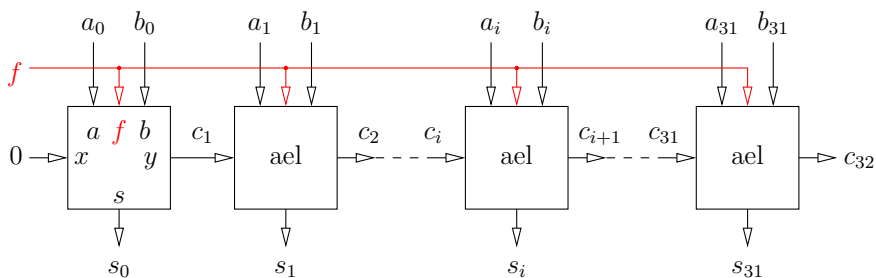

Figure 5: 32-bits ALU
At the heart of the ALU there will 32 identical **ael** elements connected together as shown on Figure 5. The i^{th} **ael** receives one bit of the first ALU operand (a_i), one bit of the second ALU operand (b_i), one carry input (c_i) from the previous **ael** (or 0 for the first **ael**), plus the control input f that selects the ALU operation. It outputs a one bit result (s_i) and a carry output (c_{i+1}). Inside **ael** the inputs and outputs are named f , a , b , x , s and y , as shown on the leftmost **ael** instance on Figure 5.
- Using the same logic gates and symbols design a circuit to compute the **vs** flag. The inputs can be any signal of Figure 5.